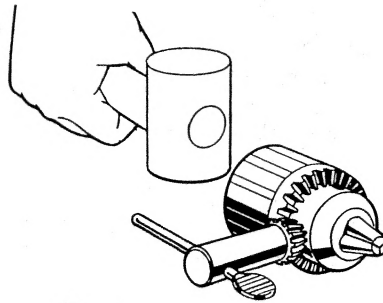

Fig. 4
1. For geared chucks which are threaded directly on or into the drill (type of chuck used on $\frac{1}{4}$ " and $\frac{3}{8}$ " drills), use the following method: Place the chuck key in the chuck. Using a hammer or other similar object, strike the key sharply in the same direction that the tool normally runs. (See Fig. 4). This will loosen the chuck so that it can be unscrewed by hand.